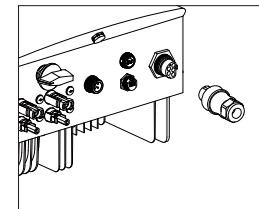

Figure 5.23 AC connector to inverter
D) Connect AC grid terminal connector to the inverter, small click will confirm that connection is appropriate. (see figure 5.23)